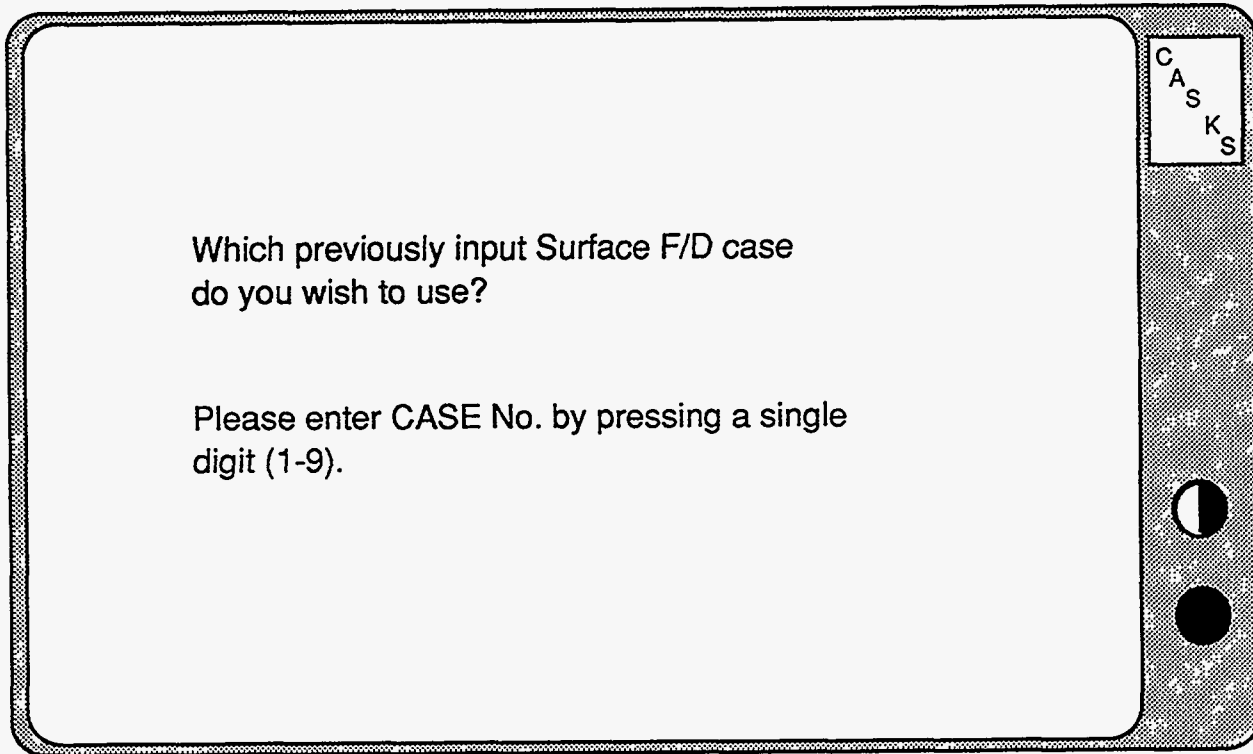

Figure 4-5. Users Specifies Which Previously Defined Surface F/D Curve to Use
- (6) Press E to use a previous case.      CASKS asks the user to indicate which case to use (Figure 4-5).